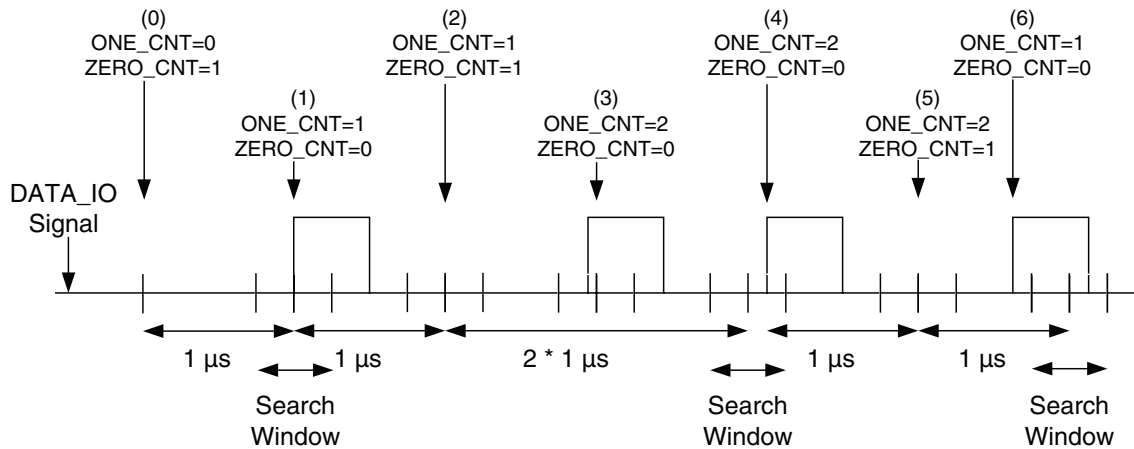

Figure 8. RFWaves Carrier Sense Example
should be an integer number (≥ 2) of 1 μsec. The number of consecutive “1” bits that obey this rule is counted in the following example (Figure 8) in ONE\_CNT counter. ONE\_CNT is incremented only if a “1” bit that comes after a “0” bit is received, where the time gap between the “1” bit and the preceding “1” bit is as mentioned above. If the time difference between two consecutive “1” bits is out of the allowed deviation, then the ONE\_CNT is reset. ONE\_CNT is also reset if the number of consecutive “0” exceeds (CSR(4:7) x 2) + 2, where CSR is the Carrier Sense Register (see 0 Carrier Sense Register (CSR)). The number of consecutive “0” bits from the last “1” bit received is counted in ZERO\_CNT. ZERO\_CNT is reset each time “1” bit is received.
In the example shown in Figure 8, at time (1) a new “1” bit is received after a “0” bit was received. Thus, CNT\_ONE equals 1 and ZERO\_CNT is reset to 0. At time (2), a “0” bit is received, so the ZERO\_CNT is incremented. At time (3), a “1” is received after a “0” bit was received. Thus ONE\_CNT is incremented and ZERO\_CNT is reset. At time (4) a “1” bit is received after a “1” bit, thus there is no change in any counter. At time (6) a “1” bit is received out of the allowed window, so ONE\_CNT is reset to 1. CSR register is used to configure the carrier sense algorithm sensitivity. CSR register determines the number of “1” bits that are required in order to decide that a carrier exists. CSR also determines the number of successive “0” bits that reset the carrier sense state machine. In SSR register, bit CS notifies whether a carrier was identified. Carrier sense can also be used as an interrupt. When CS in SSR goes from ‘1’ to ‘0’, i.e. the transmission has stopped and a CS interrupt is